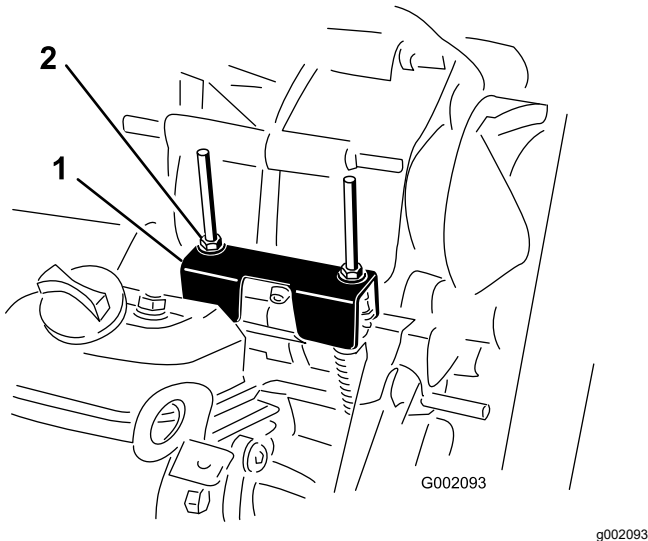

Figure 58
When performing routine maintenance and/or engine diagnostics, the transaxle must be shifted into NEUTRAL (Figure 58). The machine has a NEUTRAL position on the shift lever, which controls the neutral in the transaxle. Perform the following steps to ensure that the neutral shift lever operates the transaxle neutral correctly:
2. Ensure that the neutral bracket is in the NEUTRAL position (level to the cable mounting bracket located below the shift bracket) by turning the driven clutch (Figure 58).
3. Rotate 1 of the locknuts (Figure 58) to achieve a 0.762 to 1.524 mm (0.030 to 0.060 inch) gap between the bottom of the nut/washer and the neutral bracket.